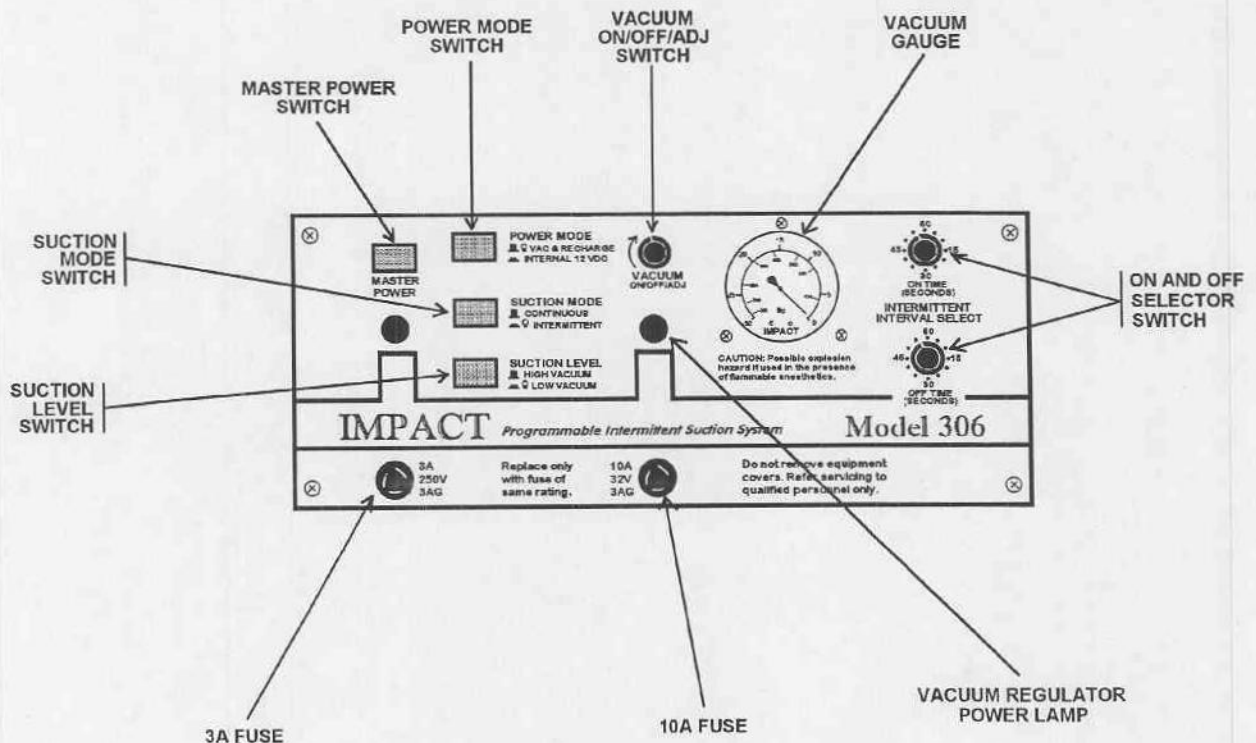

Figure 2-3. Front panel controls and indicators.
*a. Front panel controls and indicators (fig 2-3).*